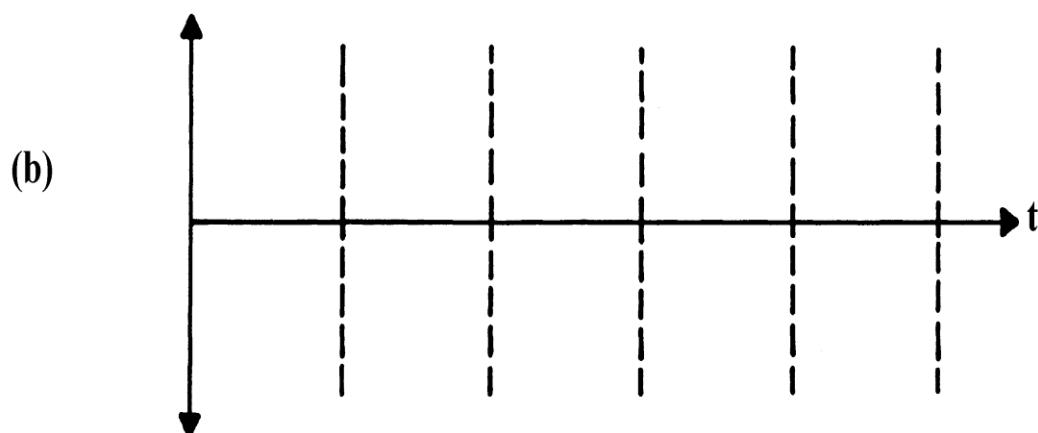

Figure 7
- With switch S open, measure the following wave- forms with the oscilloscope and draw the wave- forms on the axis of Fig. 7.